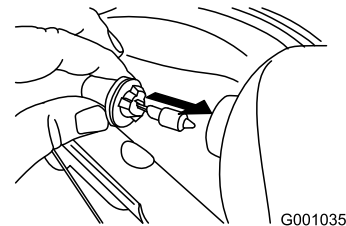

Figure 57
4. Insert a new bulb into the back of the headlight (Figure 57).